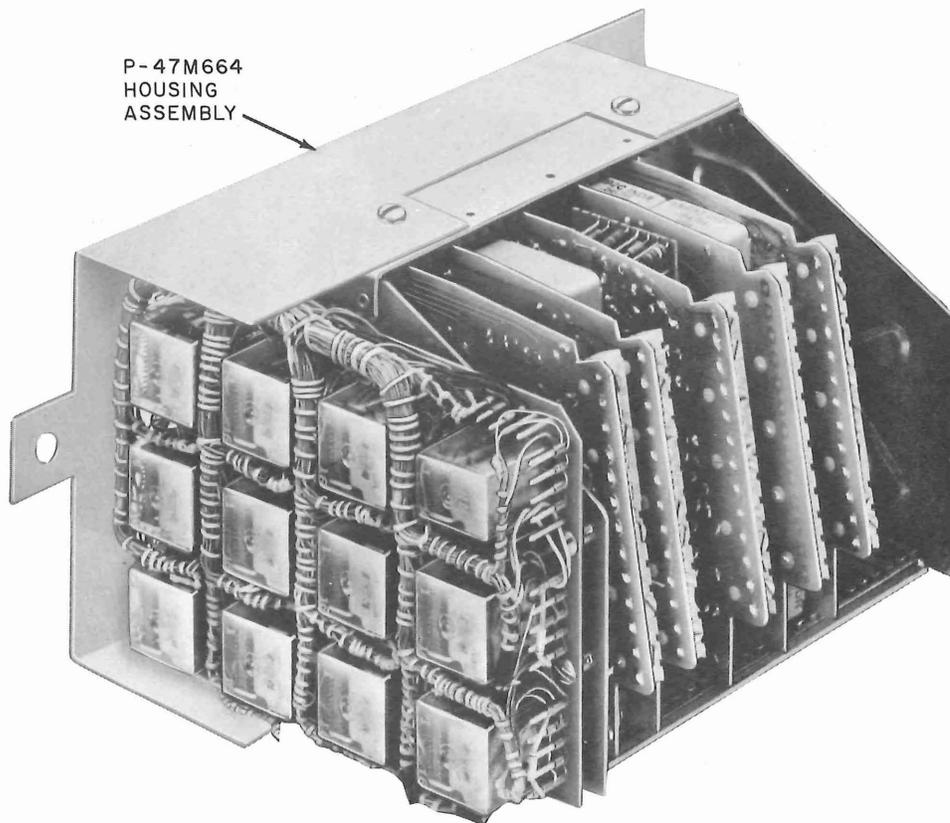

Fig. 6—Data Set 103E2
2.07 The Data Set 103E2 (Fig. 6) contains five circuit pack units plus a relay board. The designation of these units are designated as follows: